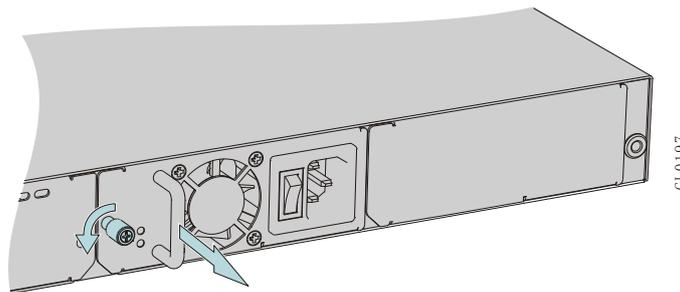

FIGURE 5-1 DISASSEMBLE THE POWER
- Step 1: Wear the anti-static wrist and use a screwdriver to loosen the captive screws on the power module, as shown in Figure 5-1.